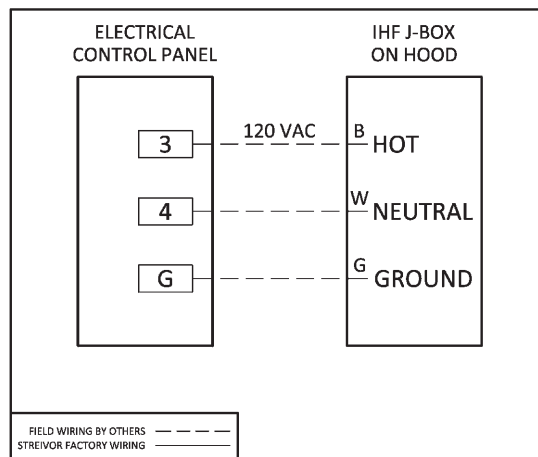

FIGURE 8: Internal Hood Fan Circuit
- b. Connect 120 VAC single phase power from terminal block 3 (hot), terminal block 4 (neutral), and ground in the control panel to the wires labeled “IHF” in the junction box on each hood (Figure 8).